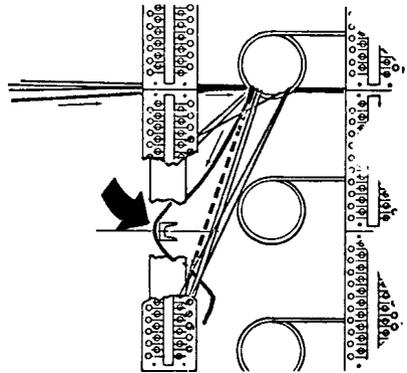

FIGURE 7. Large Arrow Points to Jumper Run Outside Vertical Ironwork. Broken Line Represents Correct Run.
- 5.07 Run short horizontal jumpers (within three verticals of straight across) *underneath* all other jumpers but *on top of* the ironwork of their respective levels (see Figure 7). In most instances, they will then cause the least possible interference with other jumpers in the rings through which they are run. Run these jumpers through the rings so that they pull on the inside edge of the rings and go as directly as possible to the proper connecting block holes.
- 5.10 Avoid weaving jumpers through existing jumpers or between the individual conductors of an existing jumper. Be sure to keep jumpers above the horizontal ironwork and inside the vertical ironwork of the frames (see Figure 7).